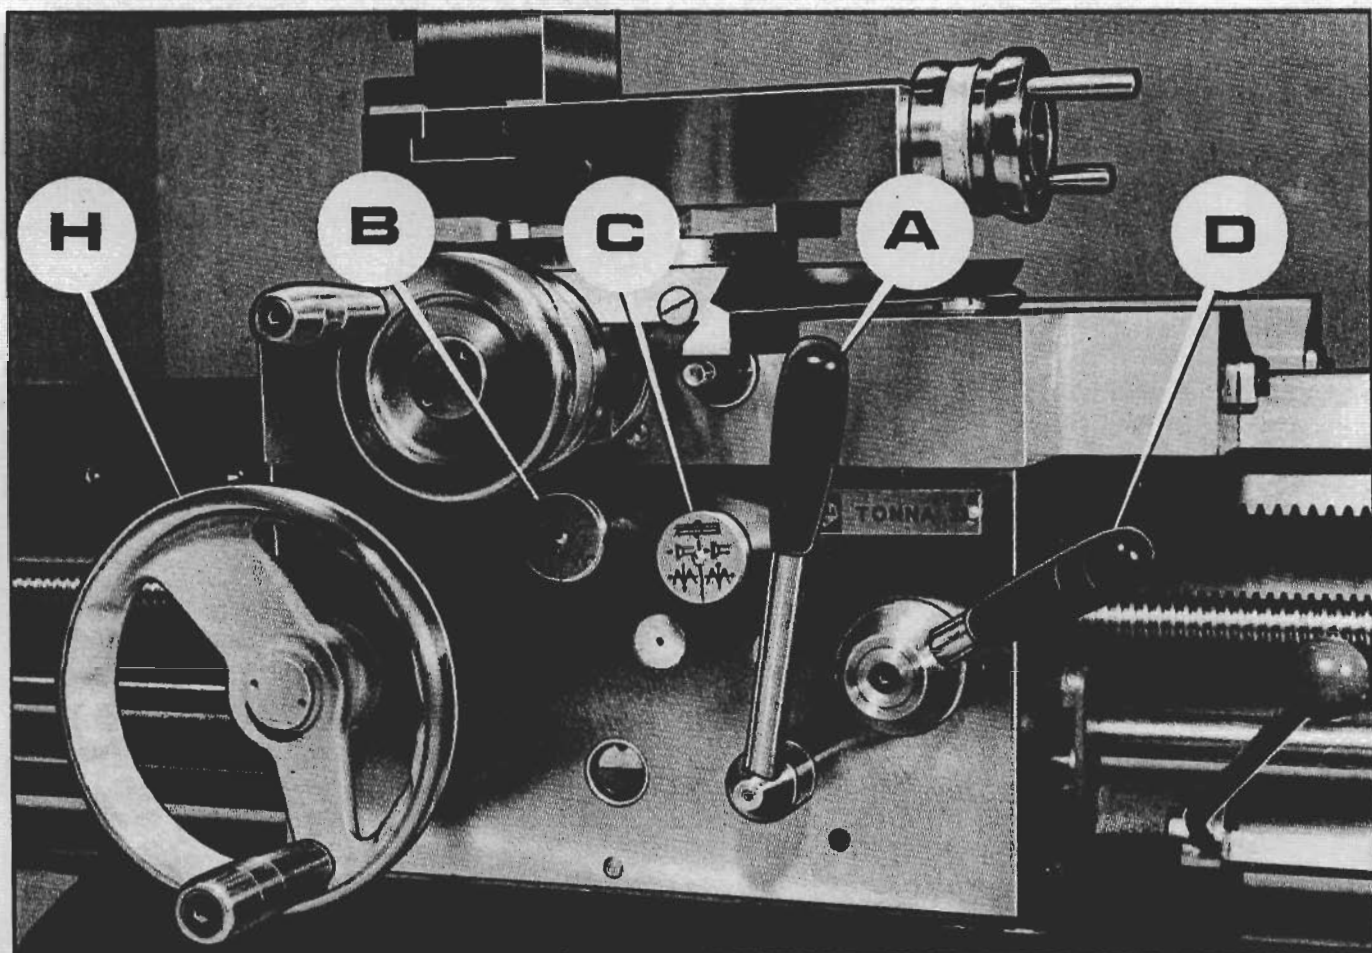

Fig. 13.
In addition to handwheel traverse, the carriage can be power-operated through controls on the front of the apron, see Fig. 13. Lever (A) is moved up for power feed engagement and down for manual operation.